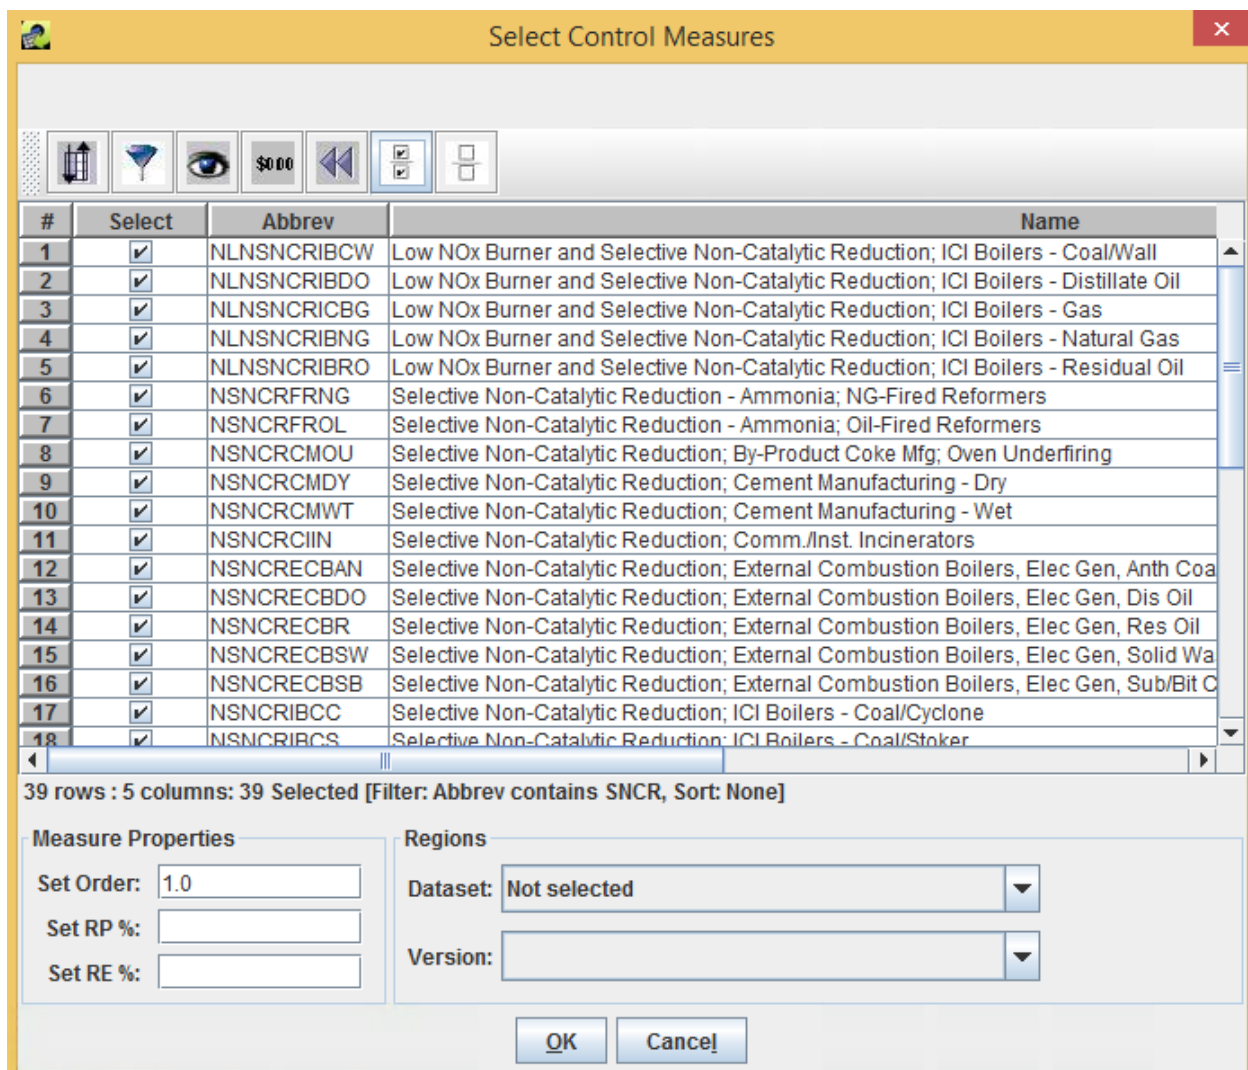

Figure 4.12: Dialog to Add Specific Control Measures to a Strategy
Step 4-20: Select Specific Control Measures. To select specific measures for inclusion in the strategy, click the **Add** button under the **Measures to Include** table to show the **Select Control Measures** window (Figure 4.12). In this window, set a filter to find all measures with the same control technology. Use the checkboxes in the **Select** column to select the measures to include in a control strategy. To select all of the measures shown in the **Select Control Measures** window, click the **Select All** button in the toolbar. Uncheck measures to exclude from a strategy. For this example, use the **Filter** to select all sources matching the following criteria: **Abbrev contains SNCR**.